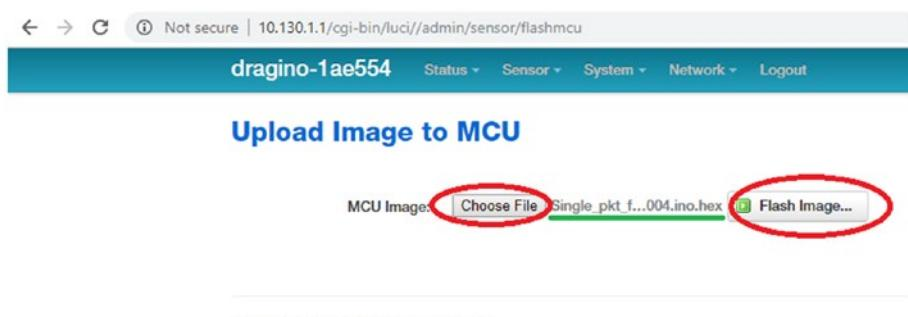

Figure 8-4. Uploading image to MCU
3. On the Upload Image to MCU page, click the Choose File button to browse and locate the downloaded hex file (Single_pkt_fwd_v004.ino.hex). Then click the Flash Image button to start uploading it to the LG01 gateway (Figure 8-4).